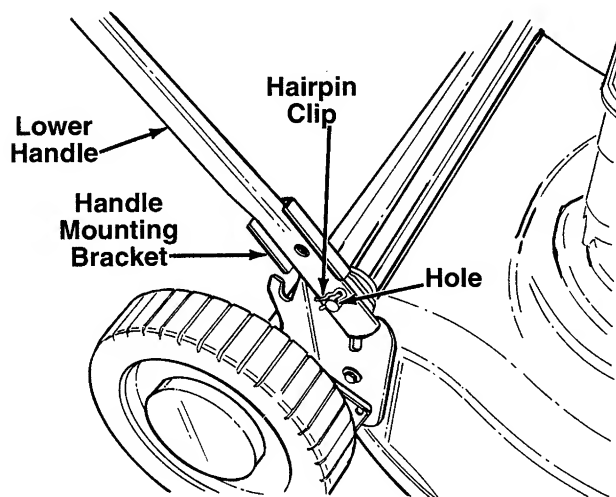

FIGURE 1.
2. Using a pair of pliers, squeeze one leg of the lower handle against the handle mounting bracket. Insert the hairpin clip into the hole in the weld pin. See figure 1. Repeat on other side.